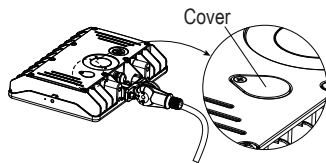

Figure 3
**Step 4:** Slide the cover back into the initial position and tighten the screw holding the cover. (Figure 3)